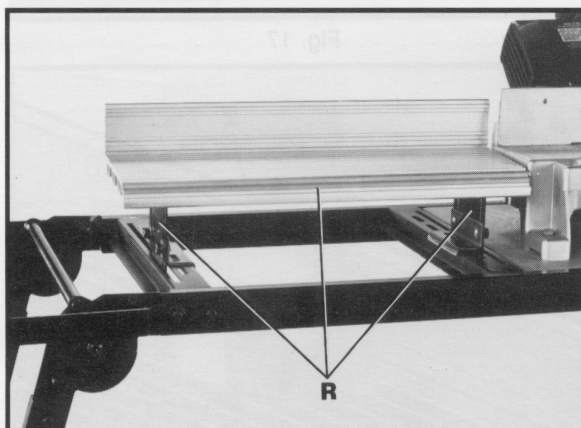
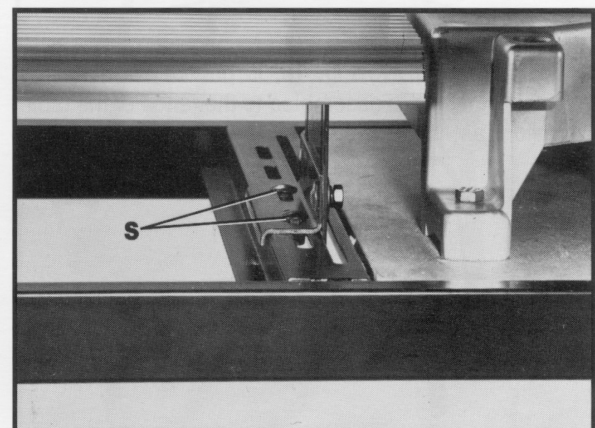

Fig. 13
Fig. 14
11. Place the table extension assembly (R) onto the two tracks of the work stand, as shown in Fig. 13. Use four carriage bolts, two of which are shown at (S) Fig. 14, flat washers, lockwashers and nuts and lightly fasten the mounting brackets to the work stand. **NOTE:** A 10mm socket with a 3/8" drive is supplied to aid in making the necessary adjustments where it is necessary to loosen and tighten the metric hardware supplied with the work stand.